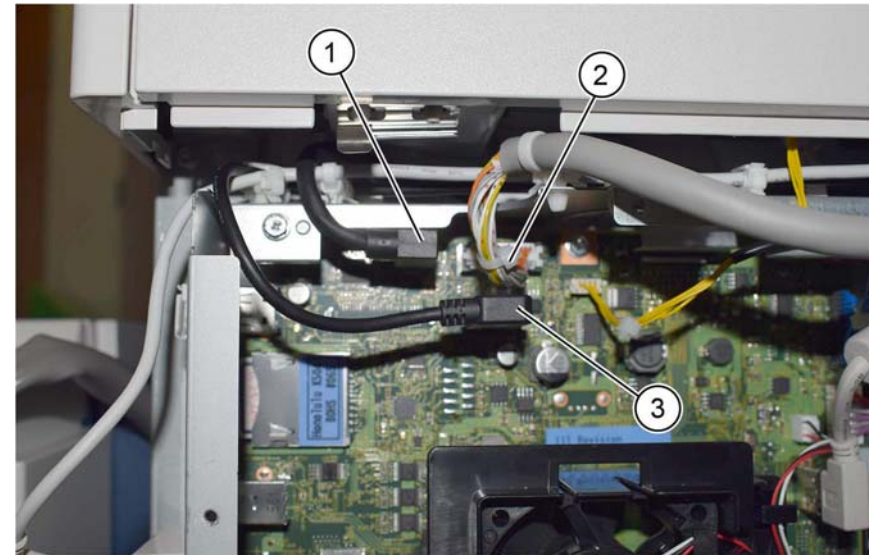

Figure 6 Cables
7. Disconnect the USB, DADF I/F and UI cables, Figure 6:
- Disconnect the USB cable (1).
- Disconnect the DADF I/F cable. (2).
- Disconnect the UI cable (3).